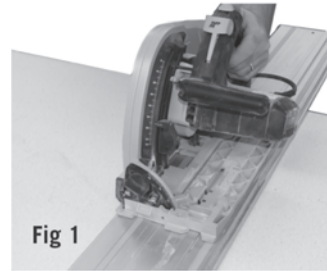

Fig 1
2. If this line is straight it will be possible to use a circular saw and perform the cut in the same manner as you would cut to length, except the cut line will be angled. (Fig 1)